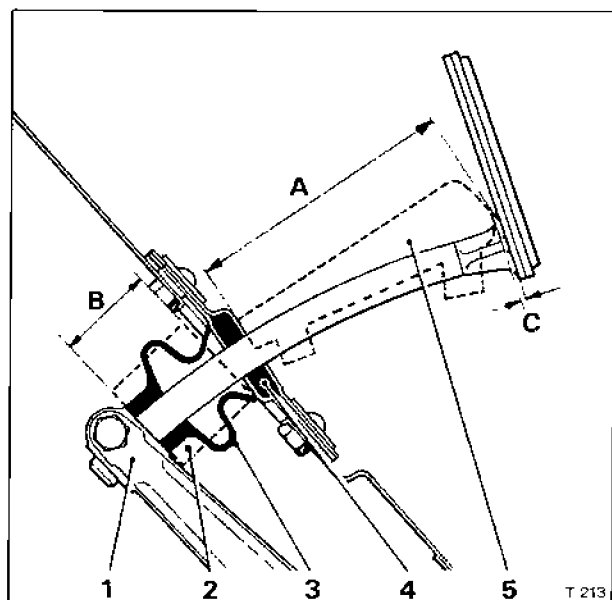

Fig. G12-4 Brake pedal height settings
Brake pedal height setting (see figs. G12-4 and G12-5)
- Locate the setting gauge into the brake pedal stem hole in the end of the pedal lever (see fig. G12-4). Raise the pedal lever until the gauge touches the underside of the toeboard seal housing.
Brake pedal height – To check (see fig. G12-4)